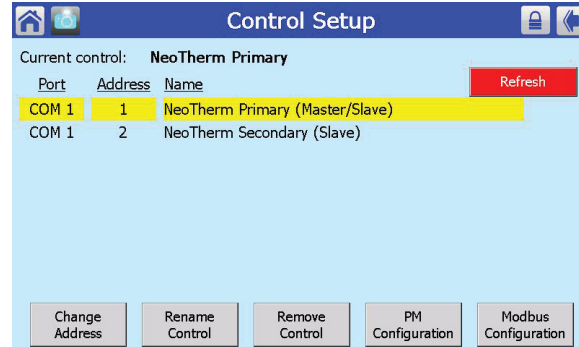

Fig. 65 – Control Setup Screen
5. Press the Control Setup button. Figure 65 shows the Control Setup screen.
10. Now you can use the same process to set the address for the Secondary control for Boiler 1. On the Control Setup screen (Fig. 65), press the second line – Brute Secondary. Change the address to the correct address taken from Table 3. In this case, the correct address would be “2.”